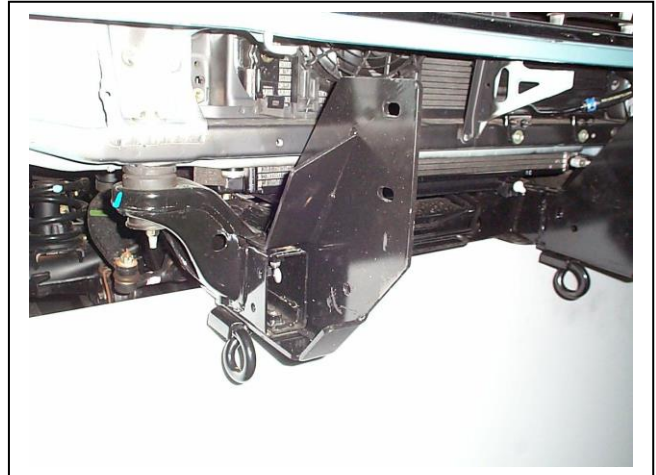

Figure 2 – Drivers side shown
7. Attach steel mounts (supplied) to chassis. Use M12 x 35 x 1.25 high tensile bolts (supplied) for top holes. Re-attach tow hooks over mounts using original bolts. Use M12 x 35 x 1.25 high tensile bolts (supplied) for lower rear holes. Use ½ x 1 ½ bolt, nut and washers for round hole in side of mount. Use original bolts for slot hole in side of mounts. **FINGER TIGHTEN ALL BOLTS ONLY. See figures 2 and 3.**